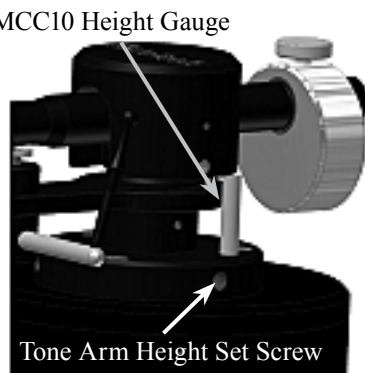

Figure 14
11. The gauge should just fit between the Tone Arm Housing and the Mounting Plate of the Tone Arm. This will verify the preset Tone Arm Height has not changed during shipping. Refer to figure 14. If the space has changed, refer to page 11 for additional information on setting the Tone Arm Height.